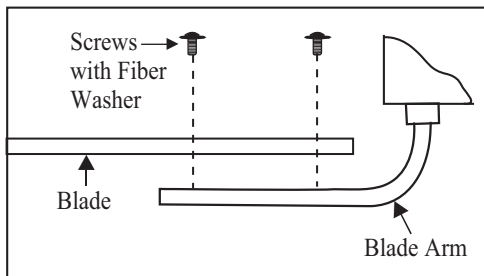

Figure 13
1. Attach blades to blade arm using the screws with fiber washers provided (Fig. 13). Start a screw into the blade arm, do not tighten. Repeat for the 2 remaining screws and washers.